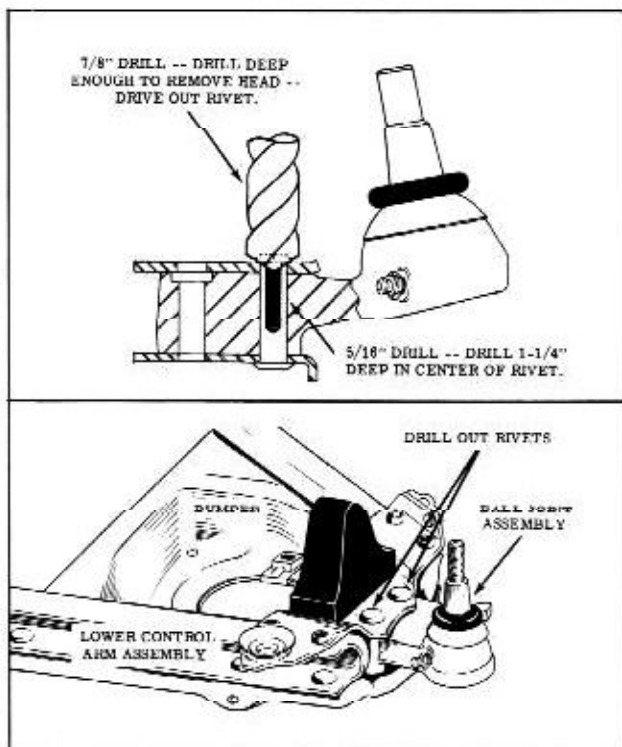

Fig. 5-12 Ball Joint Replacement
4. Follow instructions included in parts package for replacement of new ball joint. (Fig. 5-12)